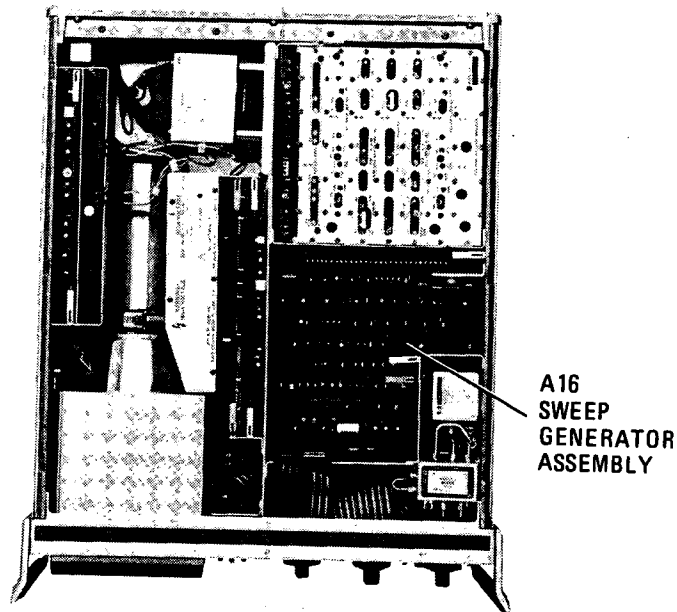

Figure 5-25. Sweep Generator Adjustment Locations
3. Connect digital voltmeter to A16TP3 +10 VTV and use A16TP4 for ground return. Adjust A16R9 +10 VTV for  $+10.00 \pm 0.01V$  (See Figure 5-25).